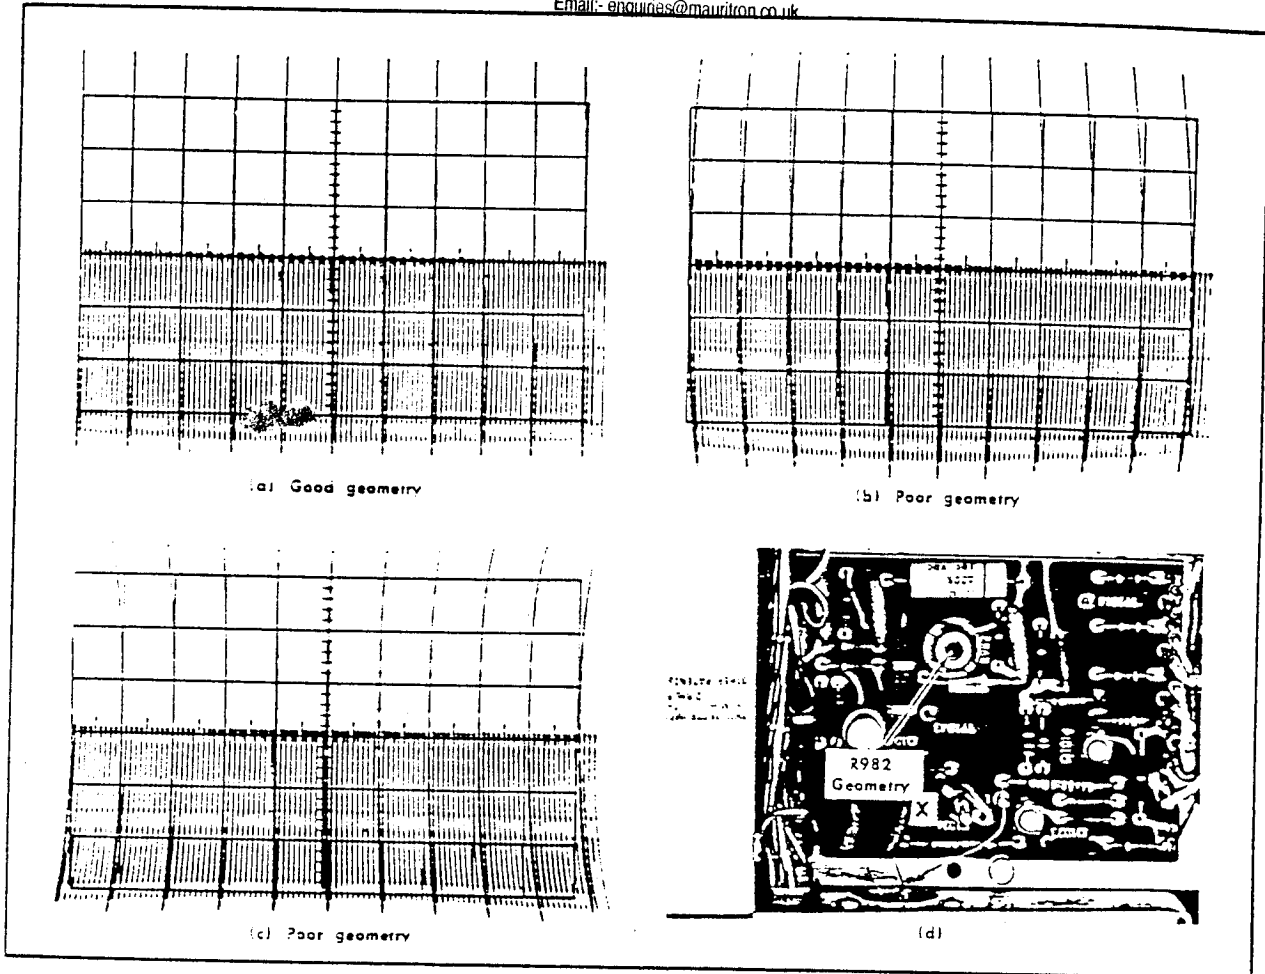

Fig. 6-17. (a) Typical crt display showing good geometry; (b) and (c) Poor geometry; (d) Location of Geometry adjustment (Z Axis Amplifier board).
- b. Check—Geometry at left and right edges of the graticule. Fig. 6-17 shows typical display of good geometry as well as examples of poor geometry.